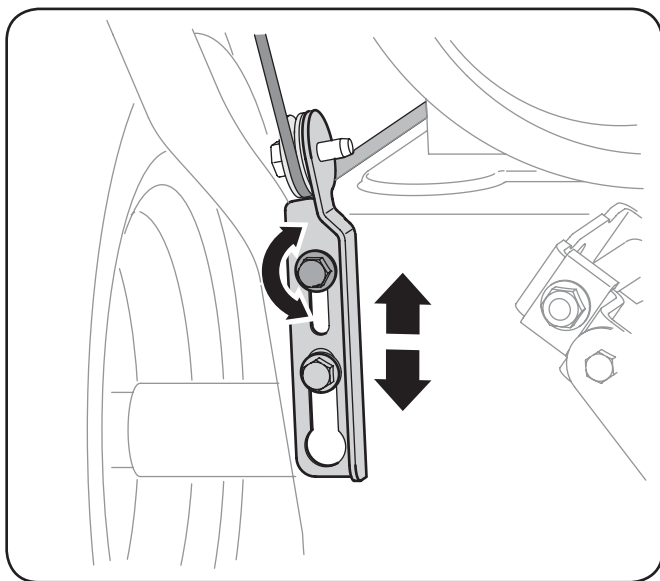

Figure 3-9
4. Allow the auger to remain engaged for approximately ten (10) seconds before releasing the auger control. Repeat this several times.
7. To readjust the control cable, loosen the upper hex nut on the auger cable bracket. See Fig. 3-9.